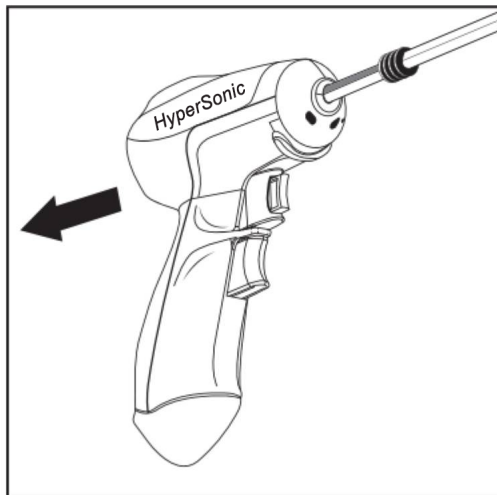

Figure 15. Holding Shaft Steady in Patient, Withdraw the Handle Just Sufficiently to Draw the Needle into the Shaft Tip (1 inch minimum).
3. Hold the shaft firmly in position and withdraw the handle just sufficiently to draw the needle into the shaft tip (1 inch minimum) (Figure 15).